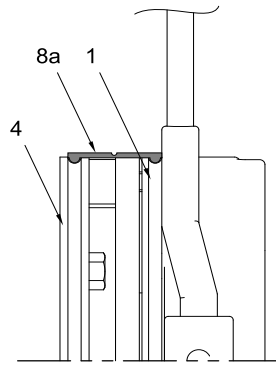

Figure 57 – Traverse Drive Brake Seal
- Press the lips of the seal into the grooves into the stator (1) and the mounting flange (4) (see Figure 57).